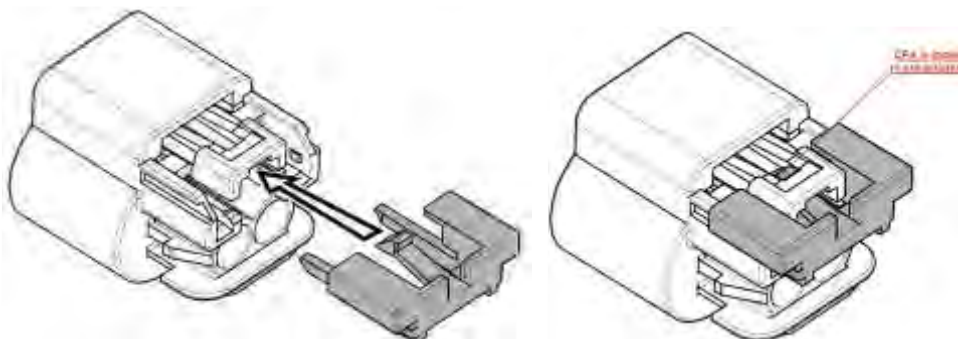

Figure 51
1. Insert CPA until it is locked in pre-assembled position, as shown in Figure 51.